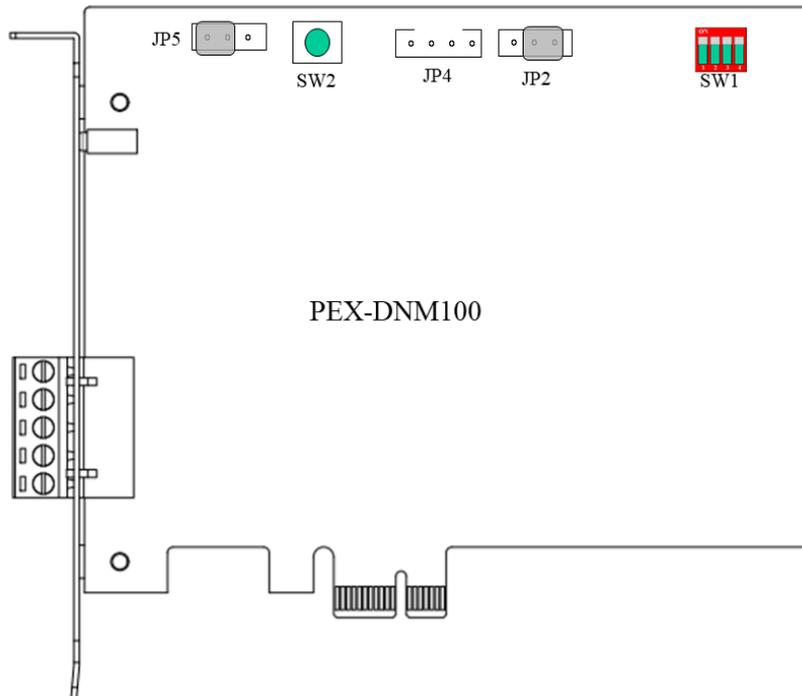

Figure2.1 PEX-DNM100 Board Layout
2. Configure the DIP switch and JP4 of your PISO-DNM100U-D/T for board No. and terminal resistance. Configure the DIP switch and JP5 of your PEX-DNM100-D/T for board No. and terminal resistance. More detail information could be found on the Figure 2.1/2.2 and Table 2.1/2.2.